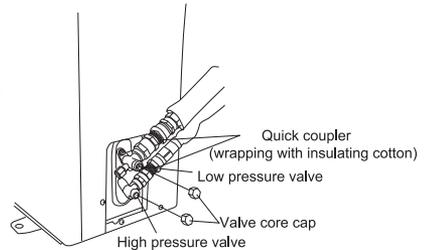

Fig.8
4. Turn on the high and low pressure valve cores with a socket wrench, then tighten the two valve core caps of the outdoor unit (Fig.8).